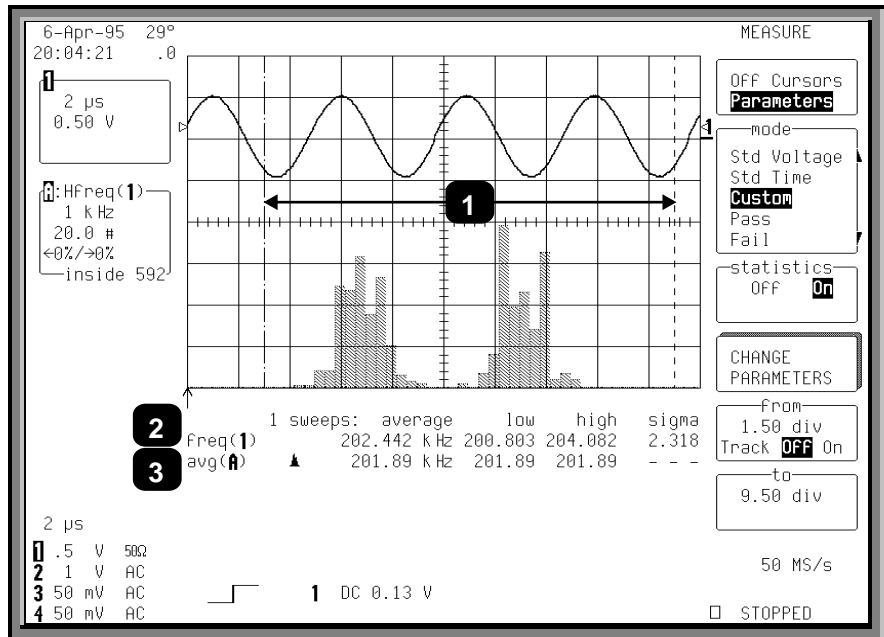

Figure 1.1
Parameters are used to perform waveform measurements for the section of a waveform lying between the parameter cursors (Fig 1.1, item ❶). The position of the parameter cursors is set using the **from** and **to** menus, and controlled by the associated menu knobs. The top trace in the figure below shows a sine wave on which a **freq** parameter measurement (❷) is being performed, with a value of 202.442 kHz as the average frequency. The bottom trace shows a histogram of this parameter and a value of 201.89 kHz (❸) — the average frequency of the data contained within the parameter cursors.